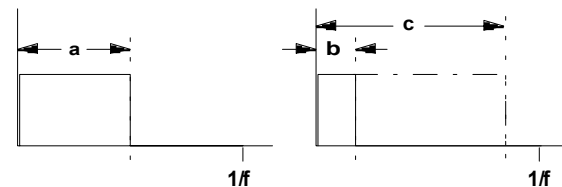

Fig. 2: Rectangle waves with different pulse widths
The VCO produces a square / rectangle wave at output ⑩. You can alter its **pulse width** (see Fig. 2) by hand or by voltage control (**pulse width modulation** or **PWM** for short).
The further the pulse width deviates from 50% (see Fig. 2, b and c), the weaker the lower harmonics become, and the more the sound gets thin and nasal.